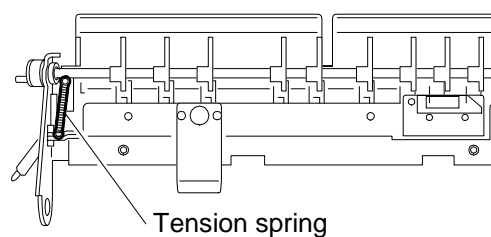

Fig. 12
- 12) Attach the 1 tension spring. (Fig. 12)